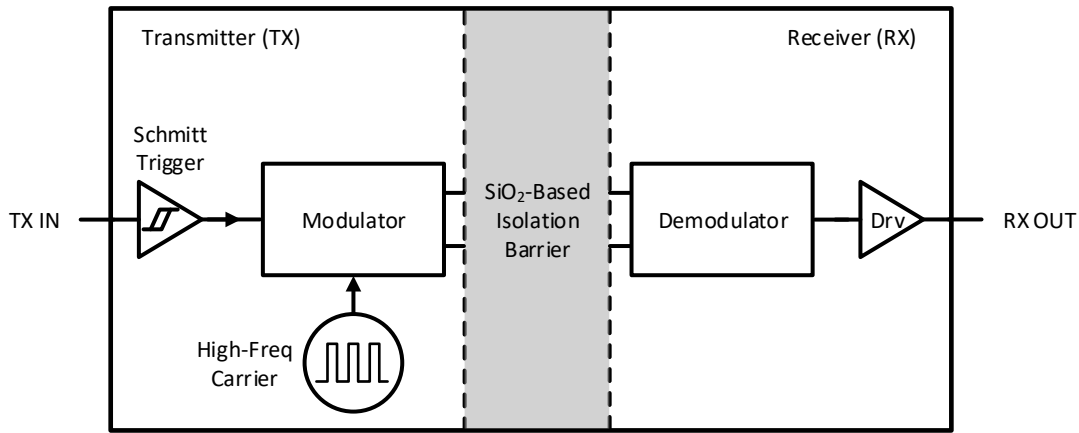
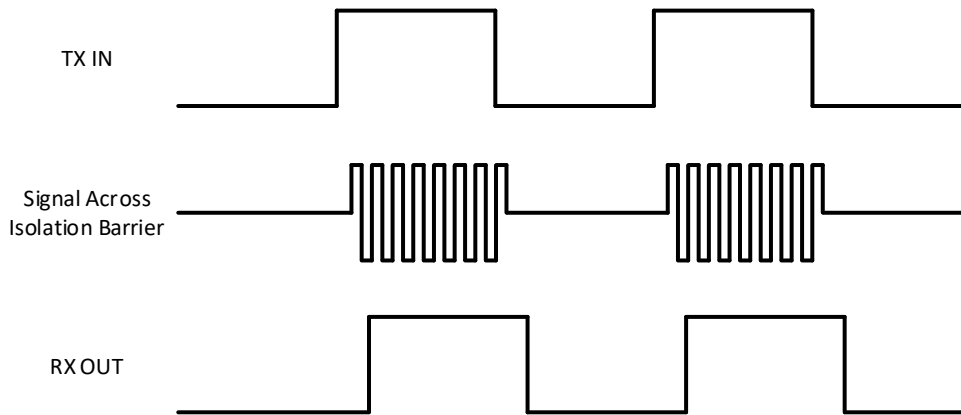

Figure 9-2 Block Diagram of an Isolation Channel
Figure 9-3 Conceptual Operation Waveforms of OOK Modulation Scheme
The CA-IS1300x devices utilize a simple on-off keying (OOK) modulation scheme to transmit the digital bitstream across the SiO2-based isolation barrier which supports up to 5-kVRMS galvanic isolation between high- and low-voltage domain. The block diagram of an isolation channel is shown in Figure 9-2. As shown in Figure 9-3, the transmitter (TX) modulates the digital bitstream with